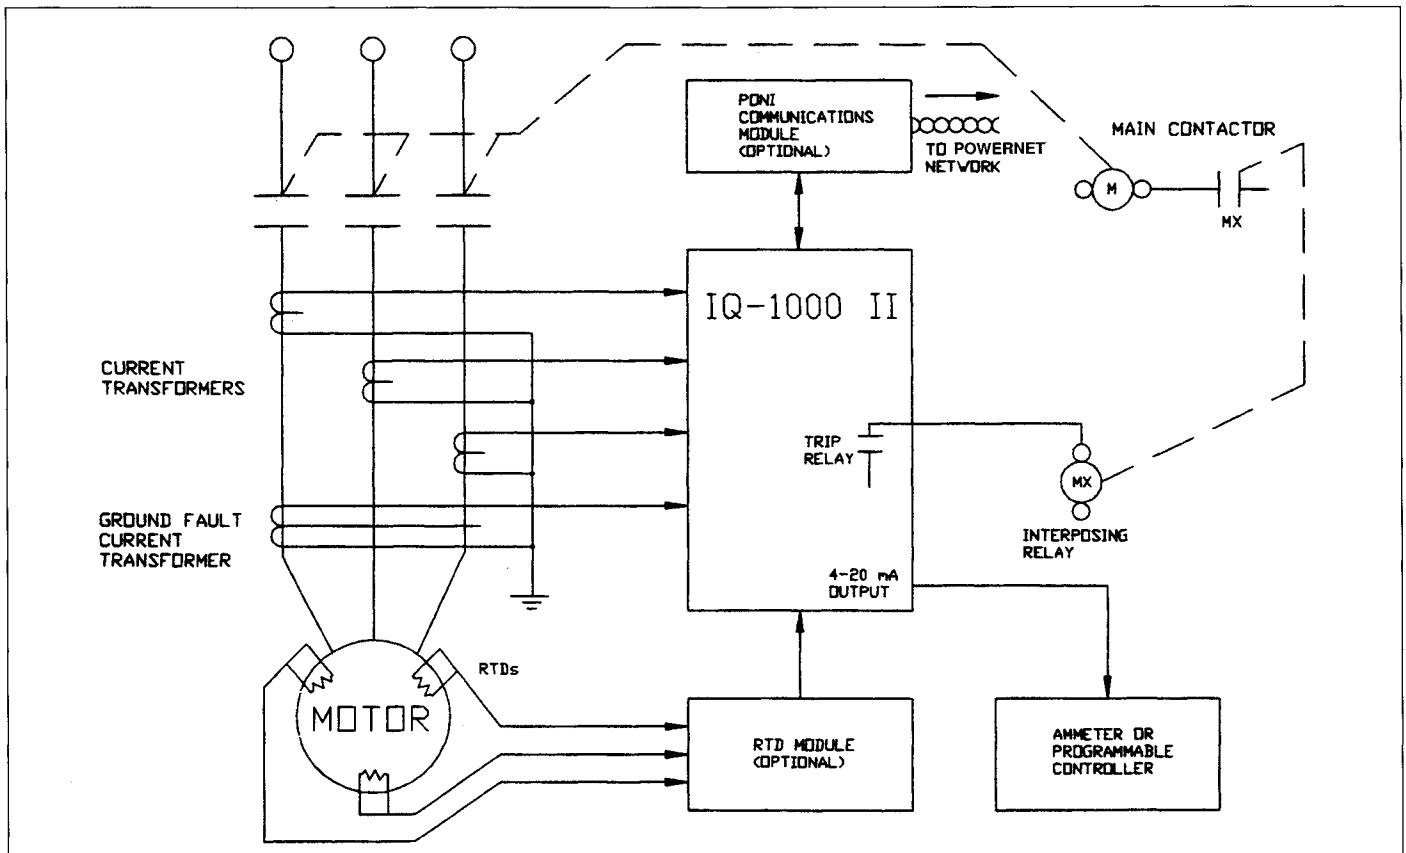

Fig. 3.1 System Overview (Simplified)
3.1 SENSING INPUTS — The IQ-1000 II receives motor current sensing derived from 3 separate current transformers, each of which monitors one phase of an AC line to the motor (see Figure 3.1). If an optional zero sequence ground fault transformer is used, the IQ-1000 II monitors ground fault current levels and compares them to a user-selected setpoint. If optional RTDs are used,